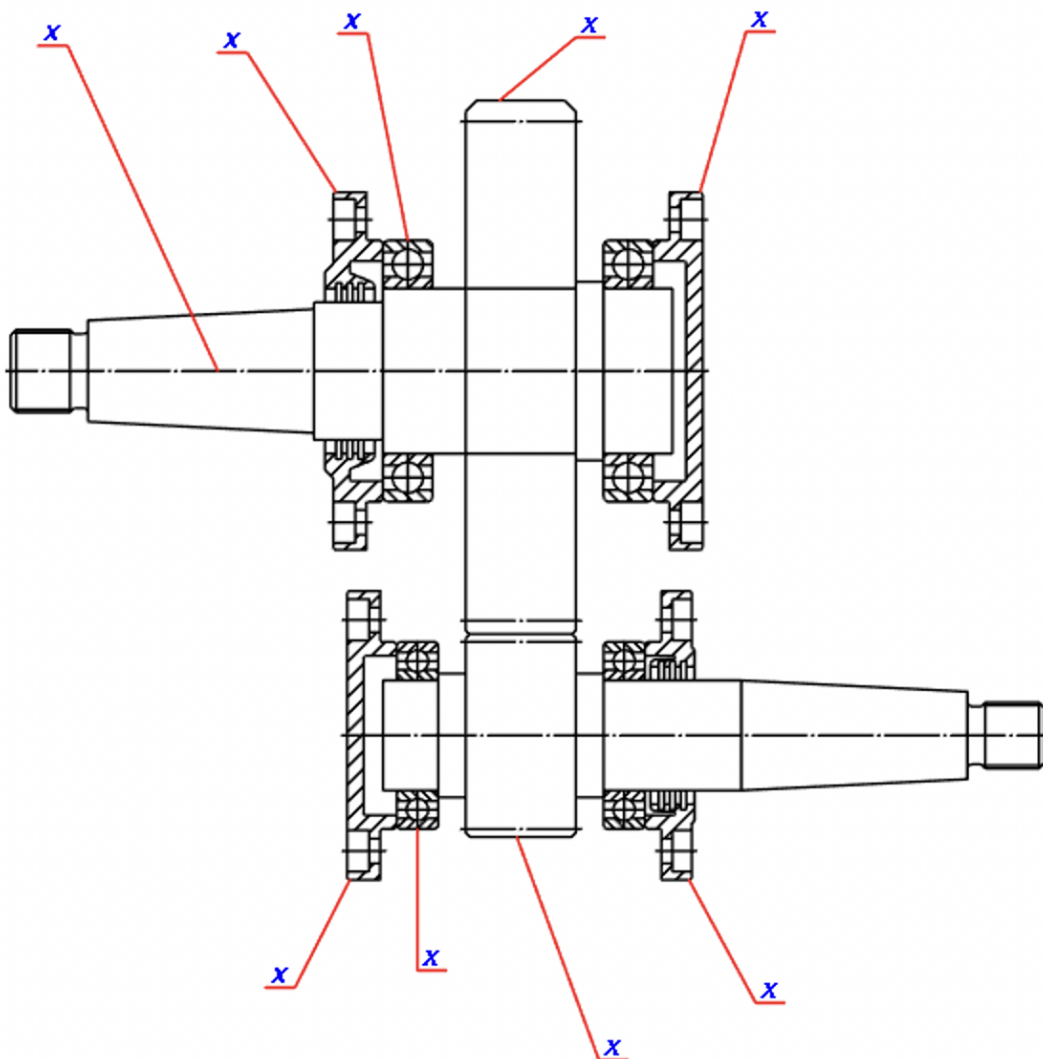

Fig. 32. The gear train with placed positions
**Note.** Name the larger wheel **Wheel** in the specification, and name the cylindrical pinion shaft **Leading Pinion Shaft**. No changes are required for standard products. The final view of the gear train with placed positions is shown in fig. 32.